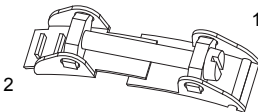

Fig. 9.1: Clasp
- Make sure that part (2) of the clasp is on top of part (1) (see Fig. 9.1). The hooks of part (2) must be on the outer side of the clasp.